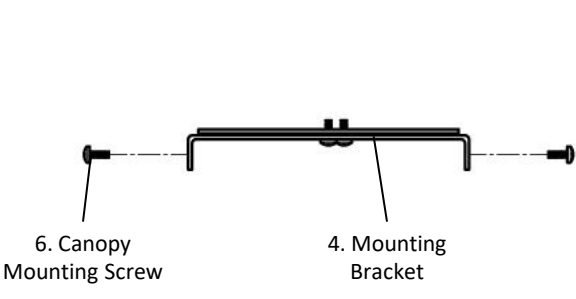

Fig. 2
1. Remove the Canopy Mounting Screws (#6) from the Mounting Bracket (#4). Keep the Canopy Mounting Screws (#6). (Fig. 2)